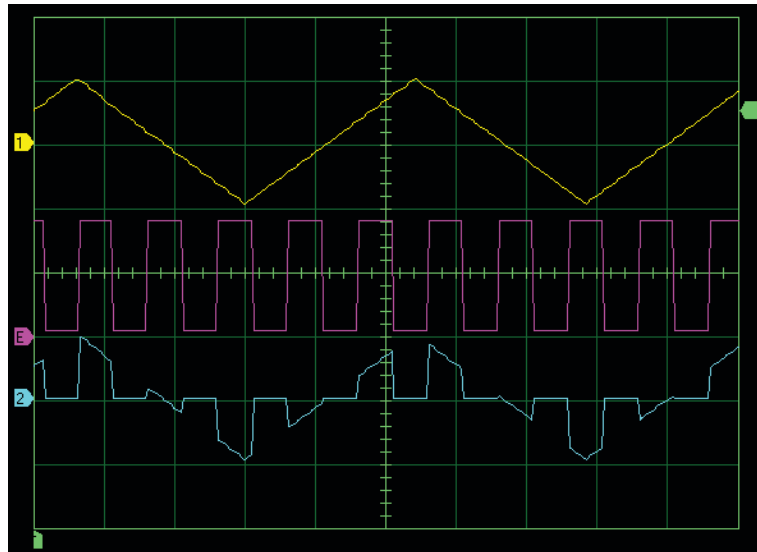

Figure 2-8. Message signal, 5 kHz sampling signal and PAM signal.
- Decrease the sampling rate from 10 kHz to 5 kHz. Figure 2-8 shows an example of settings and what you should observe.